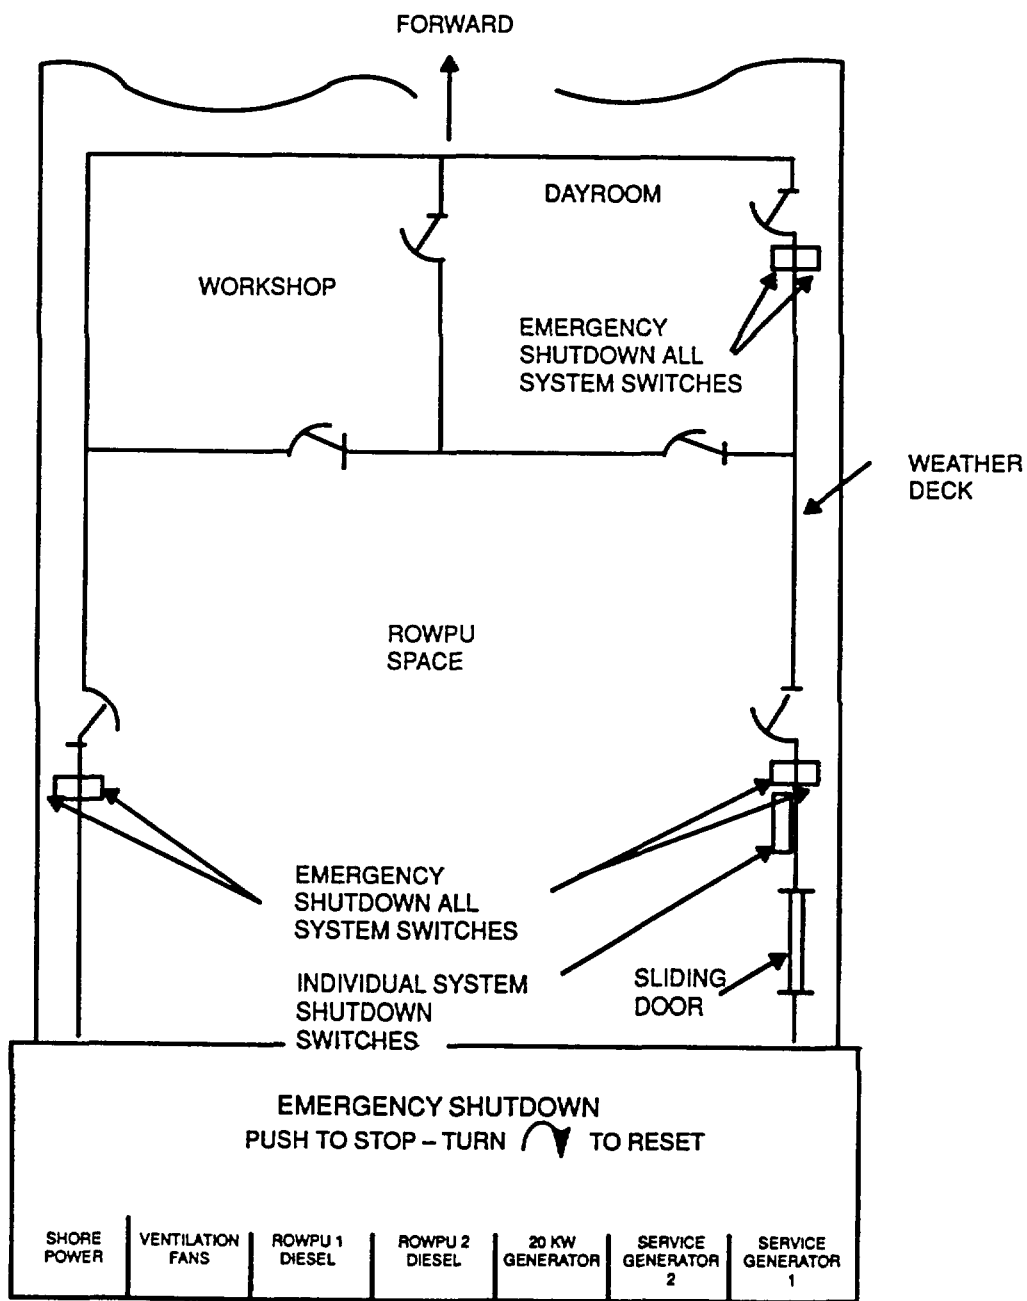

Figure 3-4. Location of Control Buttons for Emergency Shutdown Systems
- b. Seven red system shutdown buttons are located on the ROWPU space starboard bulkhead just aft of the personnel door. These system shutdown buttons (Figure 3-4) control shore power, ventilation systems, ROWPU 1 diesel high pressure pump, ROWPU 2 diesel high pressure pump, ship auxiliary generator, ship service generator 2, and ship service generator 1.
- (1) On ROWPU space starboard bulkhead aft of personnel door, above and forward of row of system shutdown buttons.
- (2) Outside ROWPU space starboard door on weatherdeck.
- (3) Outside ROWPU space port door on weatherdeck.
- (4) Inside ROWPU space port door to weatherdeck.
- (5) Outside dayroom door to weatherdeck.
- (6) Inside dayroom door to weatherdeck.